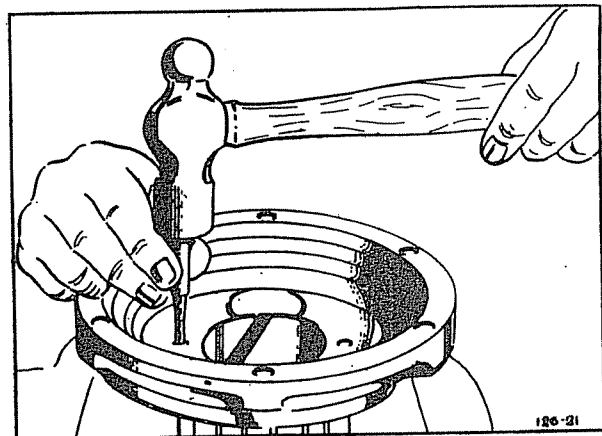

Fig. 48—Removing Differential Bearing Cones.
- (23) Remove differential bearing cones by striking inner race on alternate sides through holes provided. Refer to Figure 48.